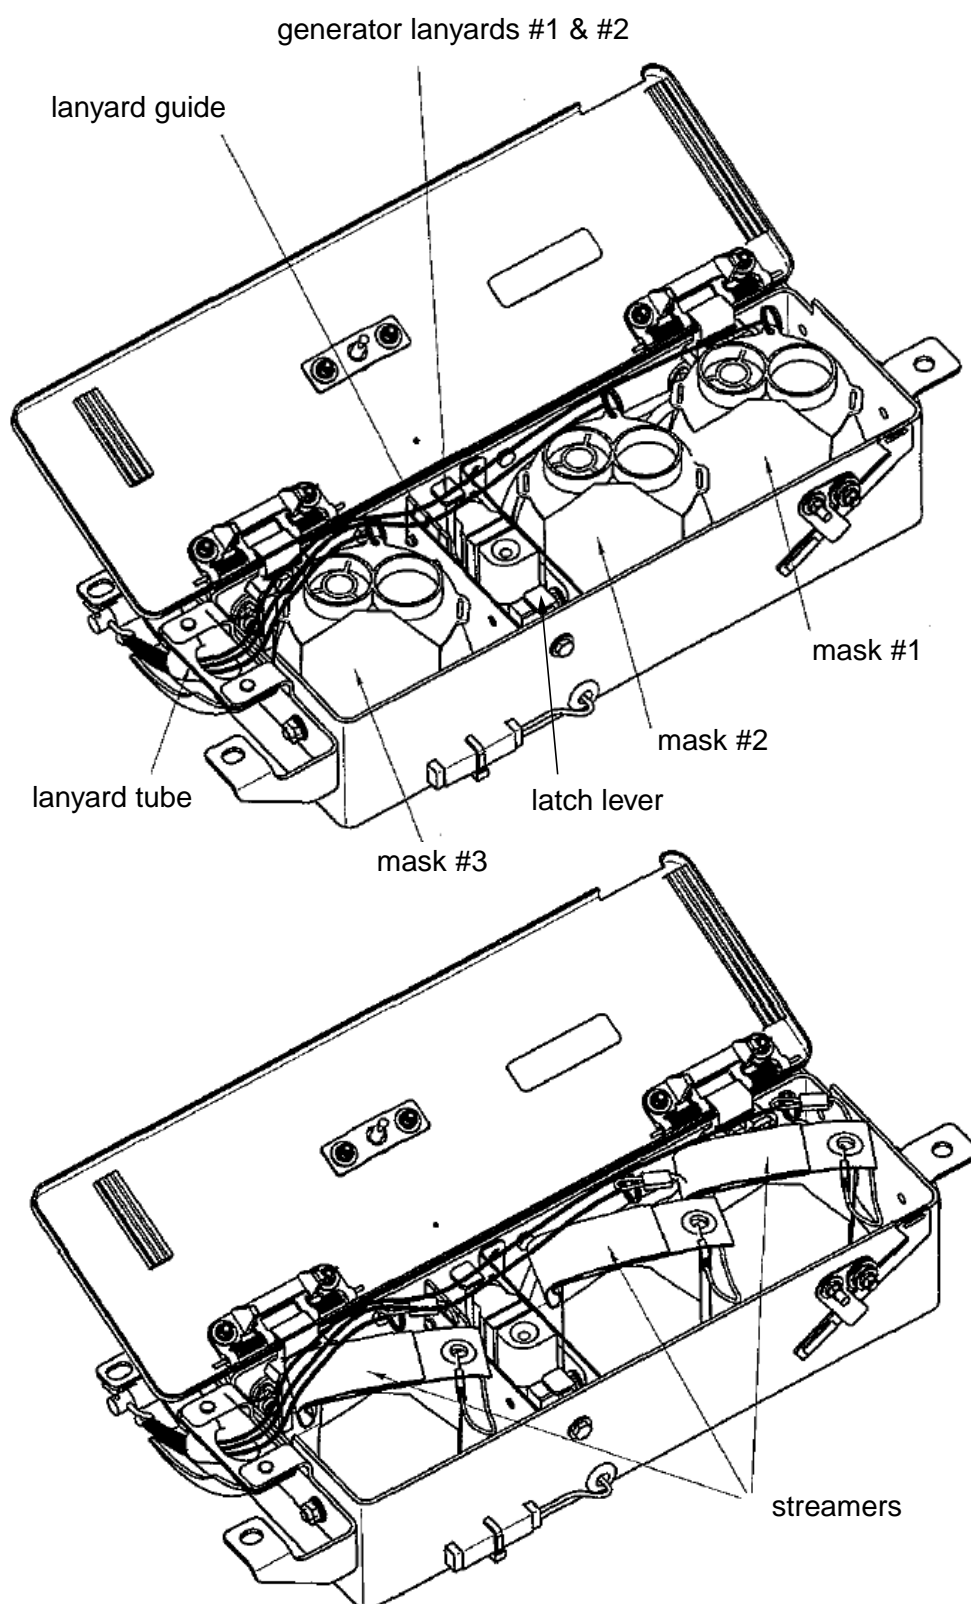

Figure 11 - Rear (AFT) Flight Attendant Mask Assembly
5.8 Re-Packing of Rear (AFT) Flight Attendant Mask Assemblies (see Figure 11)